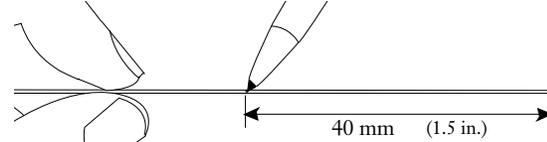

Figure 3-11
3.4-2 Measure and mark 40 mm (1.5 in) from the end of each buffered fiber (Figure 3-11).